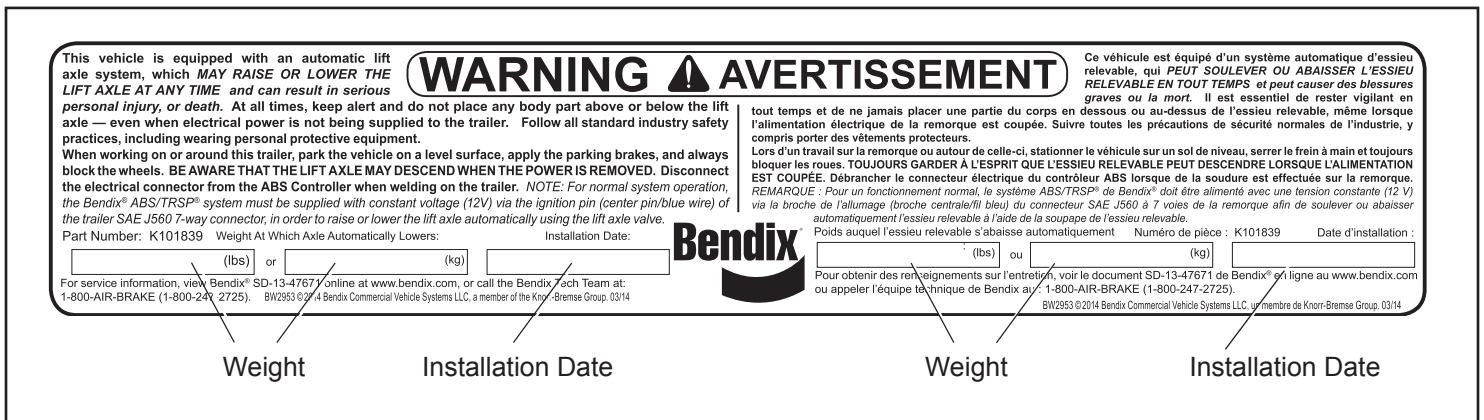

Figure 3 – Warning Label
The warning label (6) included in this kit should be placed in clear view—near eye level—on the under side of the trailer directly above the lift axle, if possible. After the label (6) is placed on the trailer, using a permanent marker, add the installation date and weight where the axle will lower. See Figure 3.